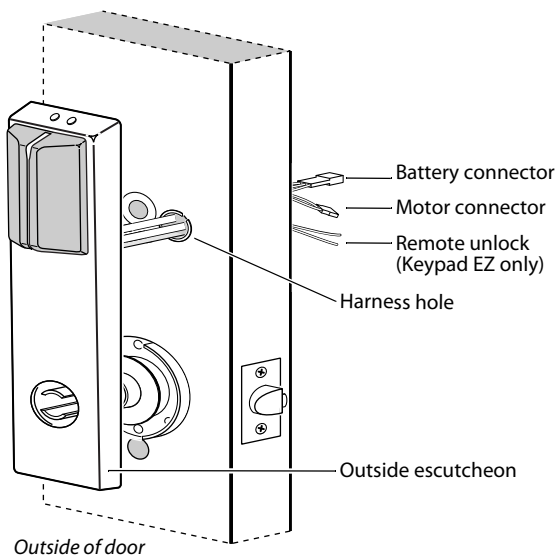

Figure 14 Feeding the wire harness connectors through the harness hole (B.A.S.I.S. or NT500 Lock shown)
- 1 From the outside of the door, feed the motor connector, battery connector, and Keypad EZ remote unlock wires through the harness hole one at a time, as shown in Figure 14.